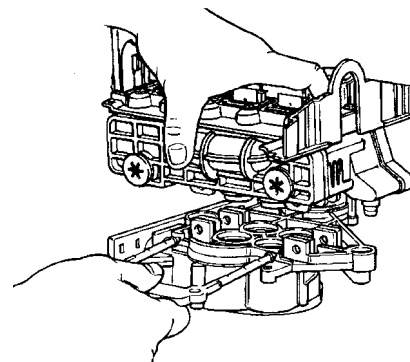

Figure 20
- Apply downward hand pressure on the valve and pull the locking bar out, Figure 20.